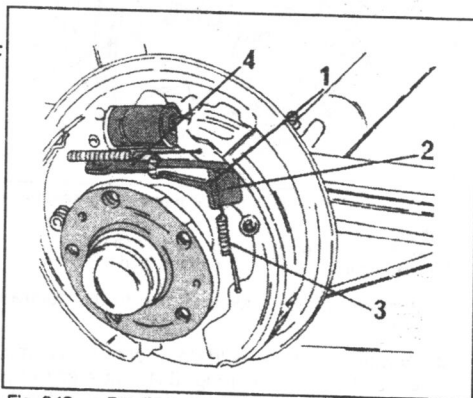

Fig. 8.12. — Details for the installation of the brake shoes.
- The next operations are carried out by referring to Fig. 8.12. Engage the spring (3) with the brake shoe and the other end with the adjuster lever (1).